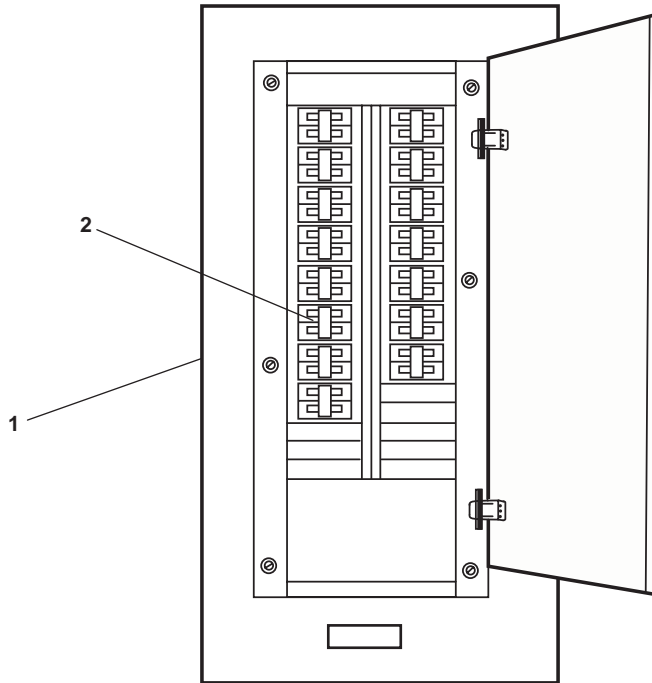

Figure 3. 120V Distribution Panel No. 4
4. At 120V distribution panel No. 4, set the PUMP DRIVE ENGINE JACKET WATER. circuit breaker (figure 3, item 1) to ON.